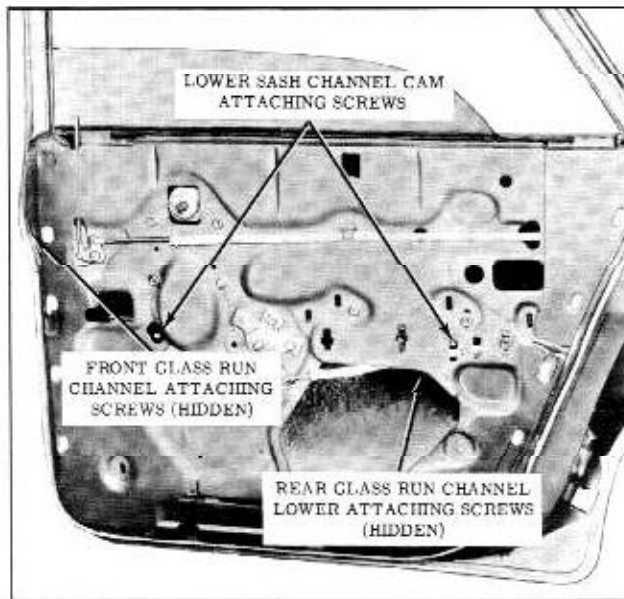

Fig. 17-51 Rear Door Assembly ("35", "45" and "69" Styles)
- Remove lower sash channel cam attaching screws and disengage cam from sash channel. (Fig. 17-51)